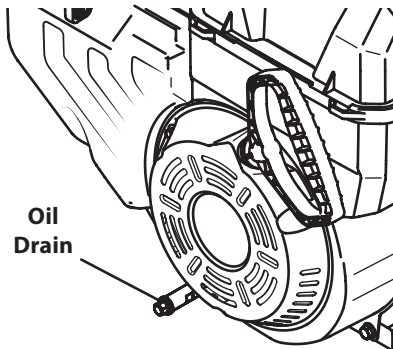

Figure 6-3
6. Remove the Oil drain plug. See "Figure 6-3".
NOTE: Depending on which engine model you have, the oil plug may be positioned differently. These positions include on the front and/or rear side of the block, or as an extended tube. Examples are shown in "Figure 6-3".